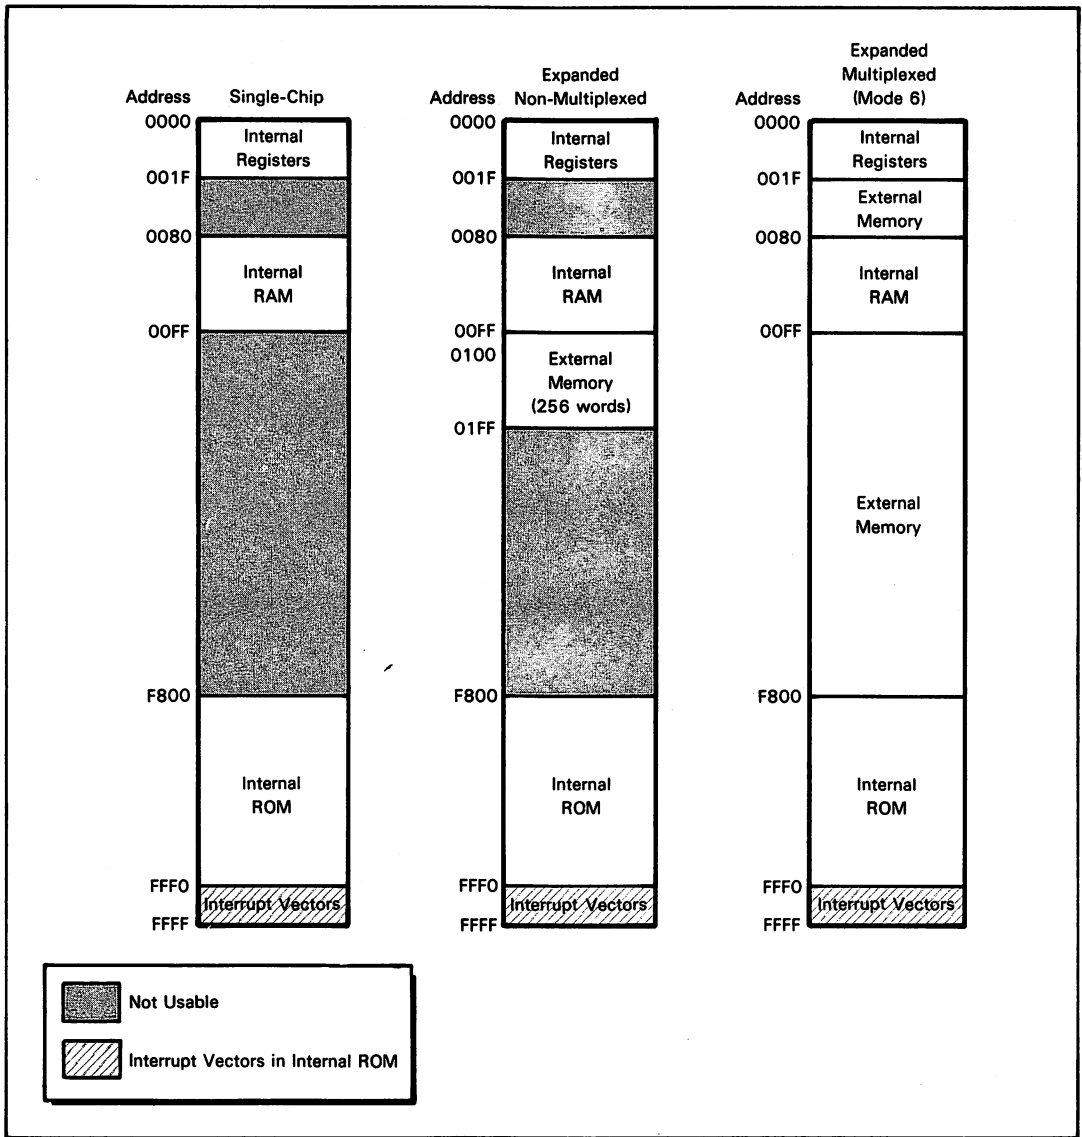

Figure 9-43. MC6801 Memory Map
The allocation of memory and/or I/O address space varies from mode to mode in the MC6801. Figure 9-43 illustrates the memory map for the three primary modes of operation.
As we described in our discussions of each operating mode, the amount of external memory address space available varies from 0 in the single-chip mode to 64K in the expanded multiplexed mode. But as you can see in Figure 9-43, there are some constants that prevail in all modes. The address space from 000016 to 001F16 is always devoted to internal registers. We will explain the purpose of these internal registers shortly. The 128 bytes of internal RAM are positioned in the address space from 008016 to 00FF16. The 2K bytes of on-chip ROM are located in the address space F800 through FFFF, with the uppermost 16 bytes of this space reserved for interrupt vectors.
**The uppermost 16 locations of the MC6801 address space are reserved for use as interrupt vectors. This use of address space for interrupt vectors is the same as in the basic MC6800 system, except that several additional interrupt options are provided.** We shall describe the operation of these interrupt vectors and the additional options available later when we discuss the interrupt system in detail. At this point we shall merely point out that in the memory map shown in Figure 9-43, the interrupt vectors are shown in internal ROM on the MC6801. This would be the most typical place for the interrupt vectors in a system that is mass produced. However, some of the variations available in the expanded multiplexed mode of operation allow the interrupt vectors to be located in external memory to provide additional flexibility in system configuration. We shall discuss these options in detail as we discuss each of the alternate modes.